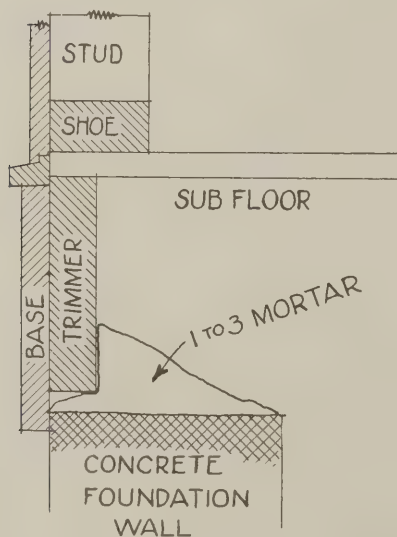

Fig. 4
I. S. D., Lewiston, Idaho, writes: "In your September issue, page 64, are two methods of foundation construction. I do not believe the first one is quite as good as this method I use, (see Fig. 4), and think the second method would cost more than this method and be no better."